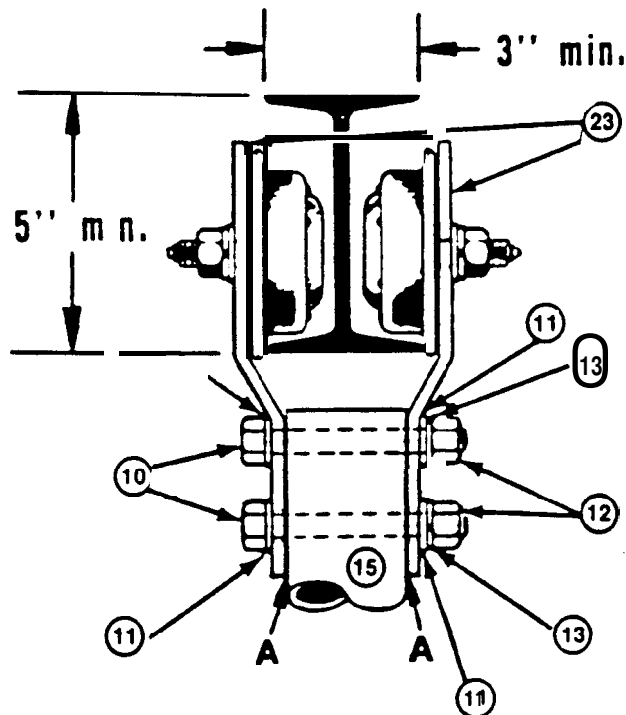

FIGURE 5
8. Assemble the Trolley item 23 to the head support tube as shown in Figure 5. Do not fully tighten bolts.
NOTE If an "I" beam with a flange width greater than 3 inches is used, it will be necessary to shim at point "A" in Figure 5 to retain the trolley assemblies in a parallel position. Use longer bolts if required.